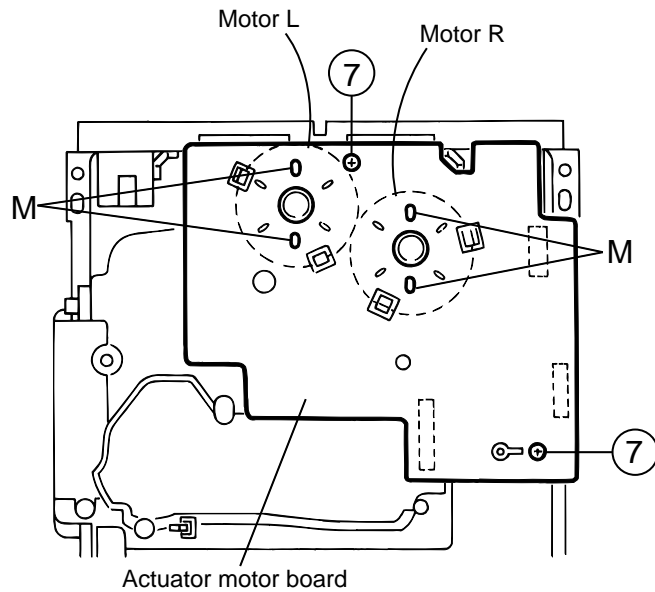

Fig.14
■ Removing the actuator motor board (See Fig.14, 15)
1. Absorb the four soldered positions "M" of the right and left motors with a soldering absorber (See Fig.14).
2. Remove the two screws 7 retaining the actuator motor board (See Fig.14).